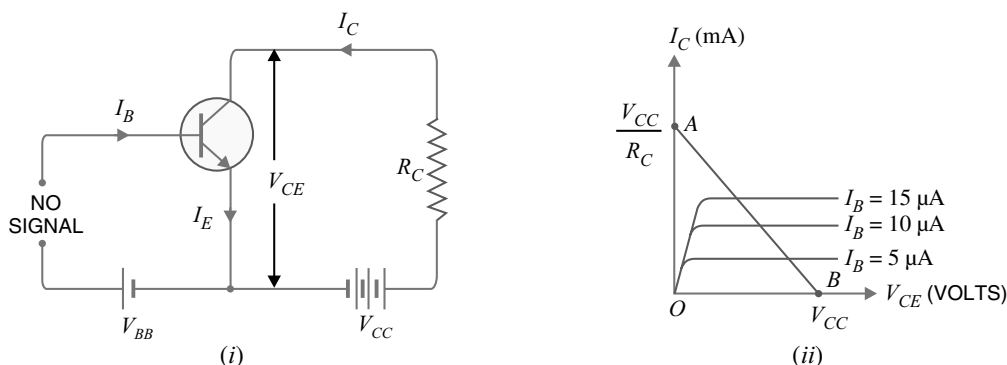

Fig. 6.37
**d.c. load line.** Consider a common emitter *npn* transistor circuit shown in Fig. 6.37 (i) where no signal is applied. Therefore, d.c. conditions prevail in the circuit. The output characteristics of this circuit are shown in Fig. 6.37 (ii).
This gives the first point B ( $OB = V_{CC}$ ) on the collector-emitter voltage axis as shown in Fig. 6.37 (ii).
This gives the second point A ( $OA = V_{CC}/R_C$ ) on the collector current axis as shown in Fig. 6.37 (ii). By joining these two points, d.c. \*load line AB is constructed.